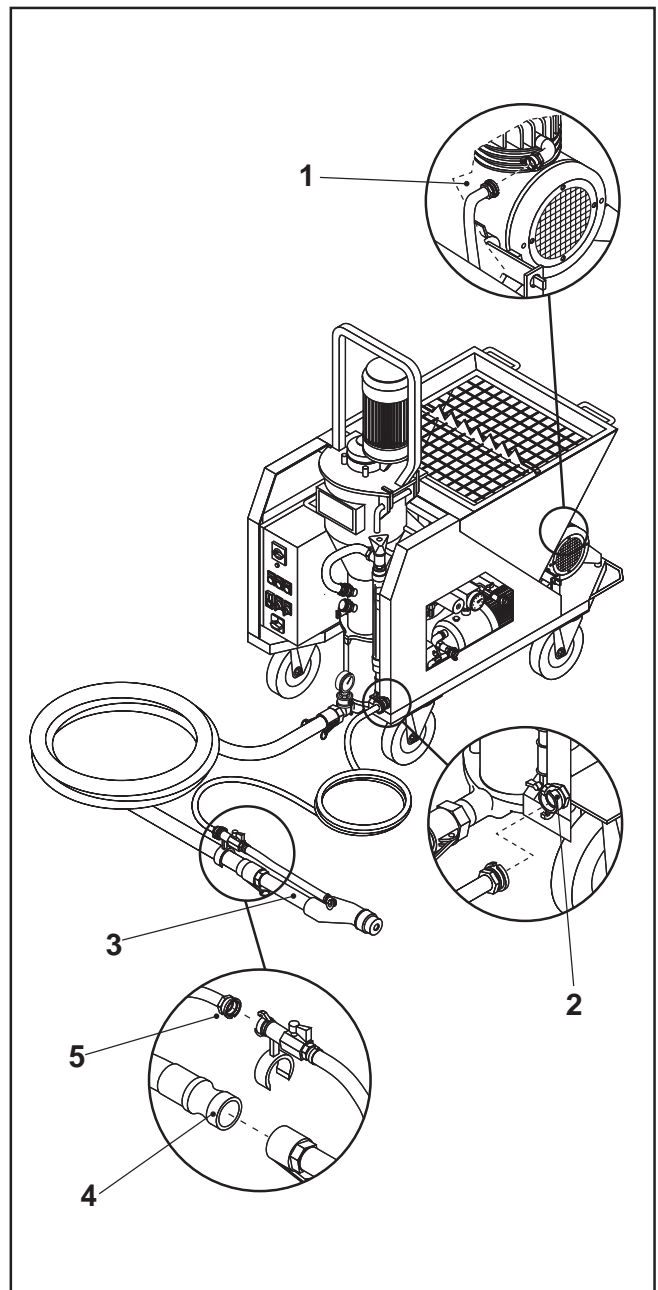

FIG.10
- Connect the compressor air pipe (FIG. 10-REF.1) to the compressor.
- Connect the gun air pipe to the attachment (FIG. 10-REF.2).
- Connect the gun (FIG. 10-REF.3) to the end parts of the material (FIG. 10-REF.4) and air (FIG. 10-REF.5) piping.